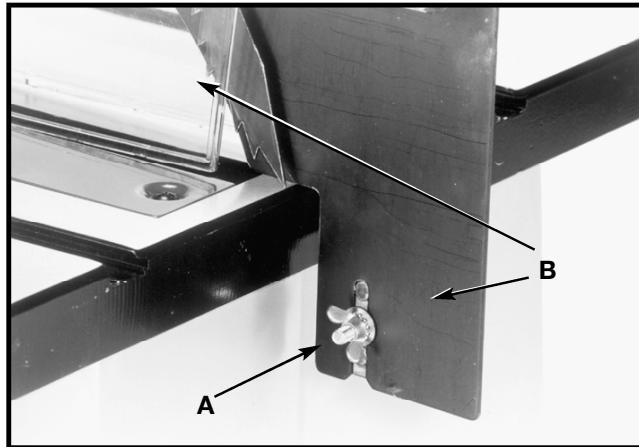

Fig. 51
Before dadoing, loosen wing nut (A) Fig. 51 and take off the blade guard and splitter assembly (B). Keep assembly handy to replace it after dadoing.